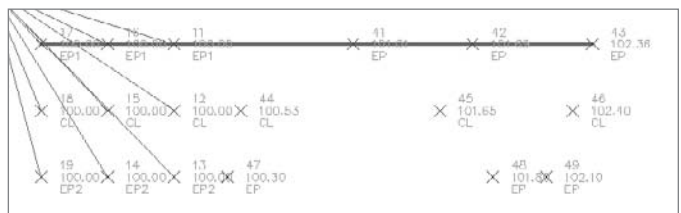

Figure 4.22
11. On the Survey tab of the Toolspace, right-click Figures and choose Update Figures. The new EP3 figure is drawn, as shown in Figure 4.22. Note that the figure prefix database ensured that this EP figure was drawn with the correct style.